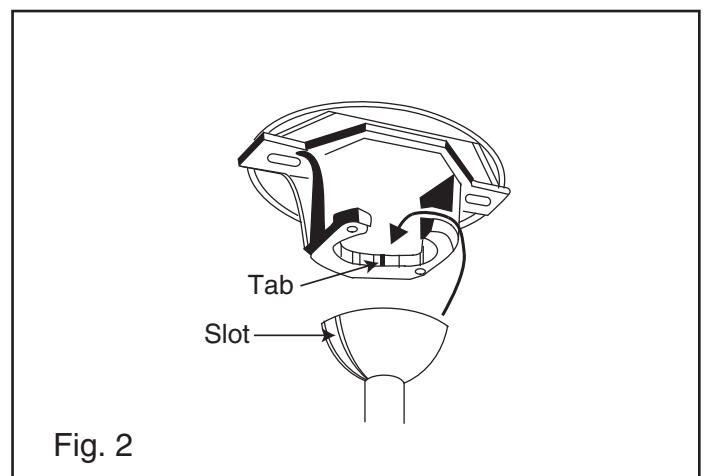

Fig. 2
Step 1. (Fig. 2) Insert the receiver into the mounting bracket with the flat side of the receiver facing the ceiling.
4. Remove one of the three screws on the mounting plate located on the fan motor. Loosen the other 2 screws. (Do not remove) (Fig. 2)
5. While holding the LED light kit under your fan, make the polarized plug connections: (Fig. 2)
8. If installing the metal light cover, make sure is securely tighten. (Fig. 2)